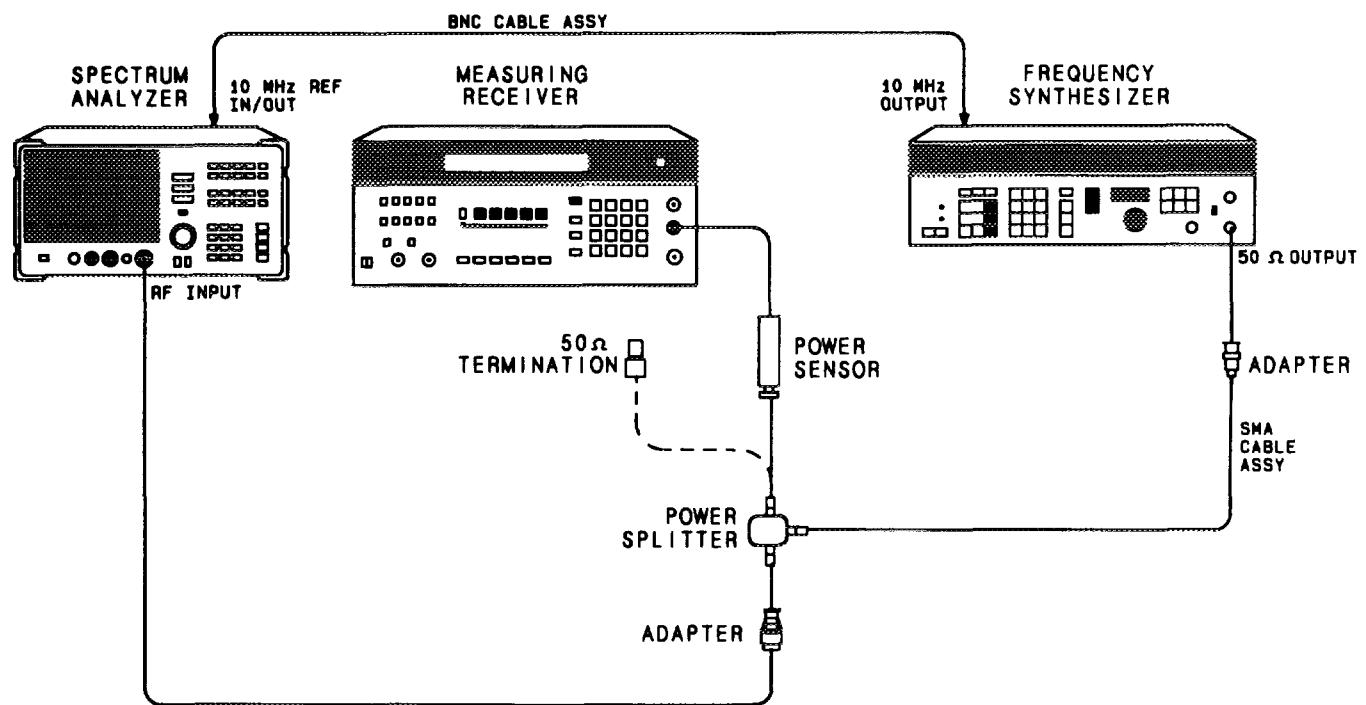

Figure 3-18. Frequency Response Test Setup, <50 MHz
44. Connect the equipment as shown in Figure 3-18. Set the HP 3335A controls as follows: